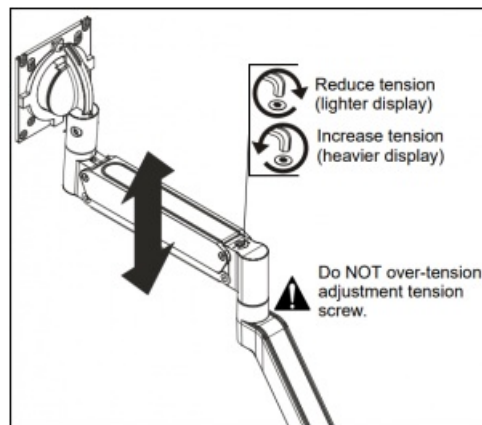

Figure 13
1. Tension may be adjusted with tension adjustment screw inside cable management cover and 5/32" hex key (H). (See Figure 13)